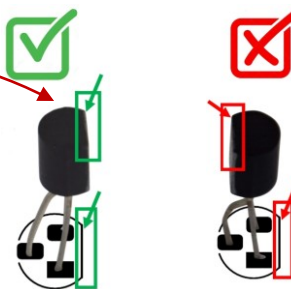

Figure IV.13
**Attention** respecting the assembly direction: the flat of each transistor must be placed on the right (figure IV.13).